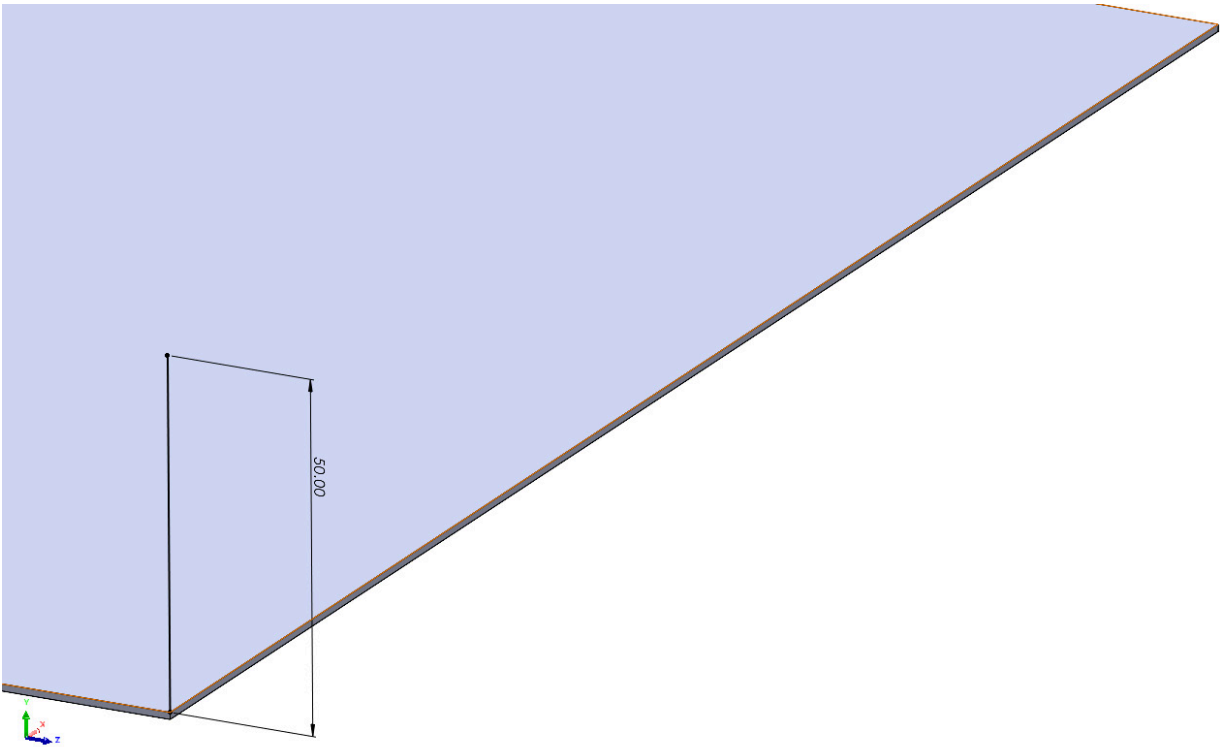

Figure 3.10: Sketching the flange cross-section-profile
4. Sketch the flange cross-section using the Sketch Entity tools. In this case, we will create a vertical line, **50mm** high, in the top-right corner of the face, as illustrated in *Figure 3.10*.